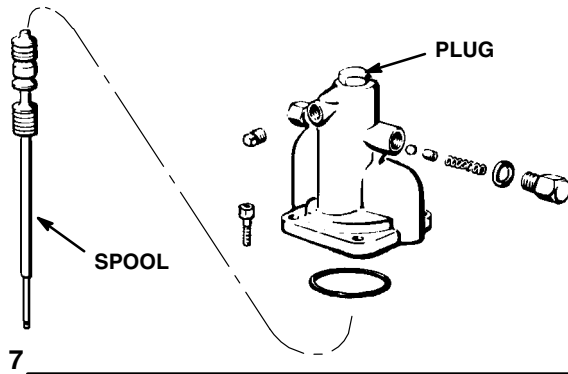

Fig 7
- 5 **If the pump stalls at the top of its stroke,** relieve fluid pressure, remove the plug from the top of the hydraulic motor, and push the spool all the way down. See Fig 7. Replace the plug and restart the sprayer.